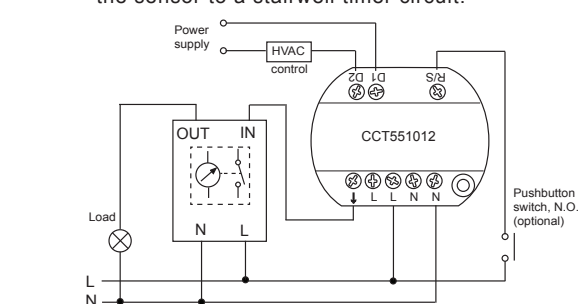

Fig 8. Sensor used with a stairwell timer circuit
- 3.2.2.2 The R/S terminal provides an optional connection point for a pushbutton. Fig 8 shows how to connect the sensor to a stairwell timer circuit.
- 3.3.3.2 Pull out cables from standard junction box (See FIG.14), then strip off 6 - 8 mm of cable sheathing for wiring, and refer to the wiring diagrams for correct cable connections (See FIG.3 - FIG.8).